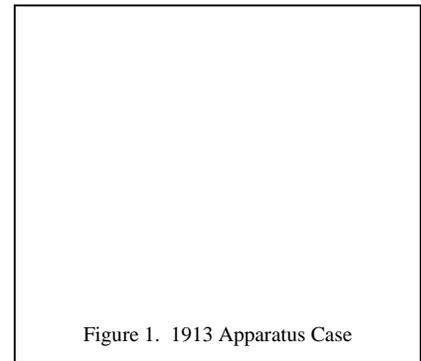

Figure 1. 1913 Apparatus Case
- 1.1 The 191300 and 191301 Apparatus Case (figure 1) provides enclosed wall or desktop mounting for two Type 10 modules. The Model 191300 includes an integral power rectifier/regulator which provides a regulated -24 or -48 Vdc to the modules from an ac source. The Model 191301 is identical to the 191300 but does not include the rectifier/regulator circuitry. Both models are equipped to accommodate external -22 Vdc to -56 Vdc input power.